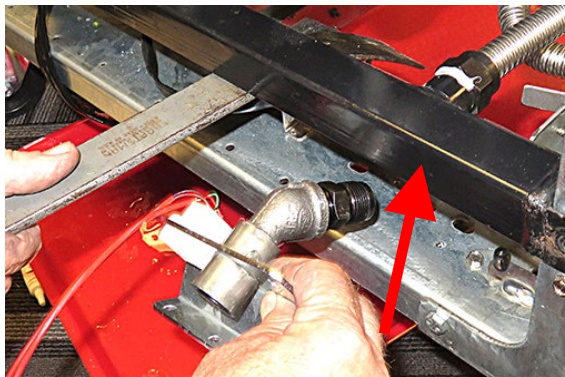

Figure 30
33. Using a prybar, slightly lift the oil manifold up to allow the oil dispose assembly 1087707 to slide in between the gas and oil manifolds (see Figure 30).